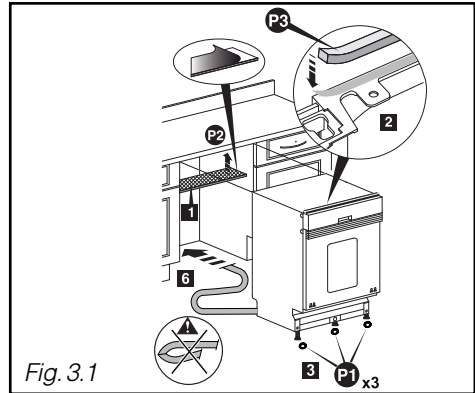

Fig. 3.1
- **Glue on the anti-condensation plate**  (Fig. 3.1)
- **Glue on the foam sound-proofing seal**  (Fig. 3.1)
- **Clip the three cups**  **under the feet to make the dishwasher easier to slide** (Fig. 3.1).